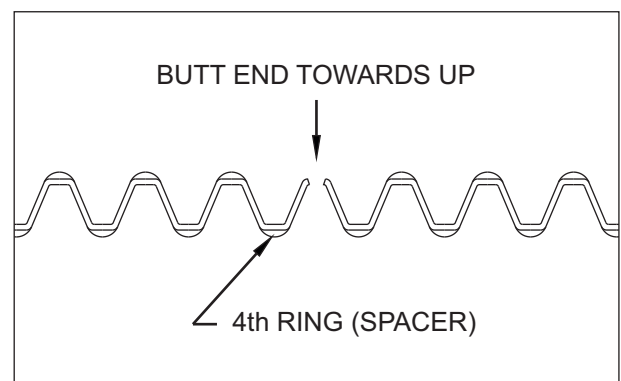

Fig. 3.94
- Assemble the 4th ring (spacer) in the third groove of piston in such away that its triangle shaped end (butt end) facing upwards (triangle facing towards piston top). (Fig. 3.94)